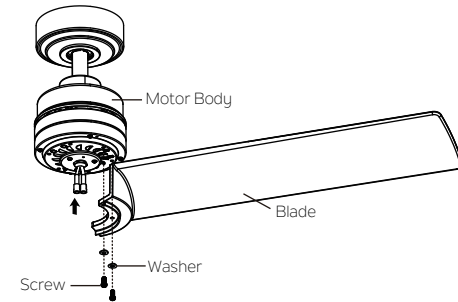

Fig. 16
Step 1. Lightly attach the blade to the motor body with washers and screws found in the blade attachment hardware pack. Then, securely tighten after two screws are attached.(Fig.16)